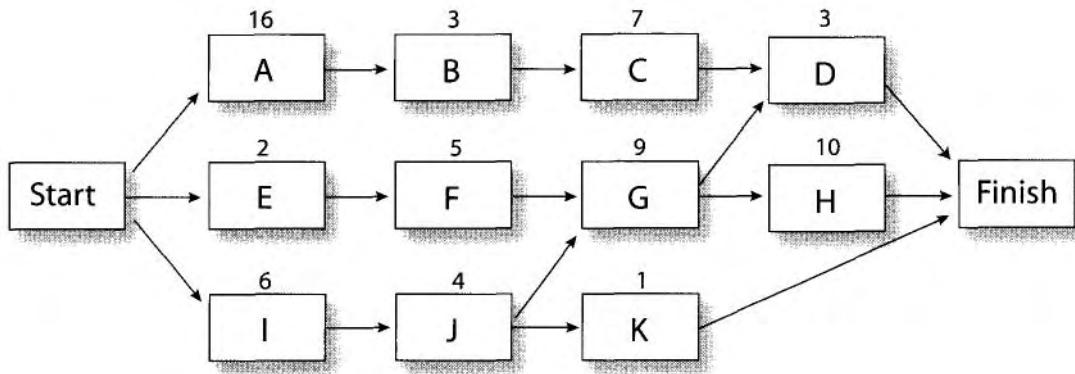

Figure 6-7: Project network diagram.
In order to test yourself on time management, complete the following questions based on Figure 6-7 below.
1. List all the paths through the network logic diagram as illustrated in Figure 6-7.
2. What is the critical path through the network diagram shown in Figure 6-7?